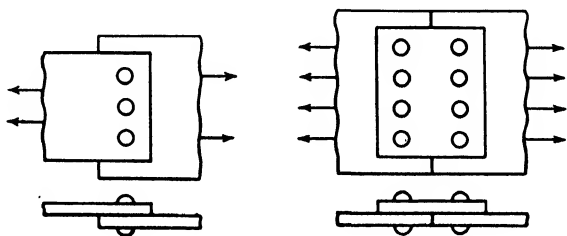

Fig. 233.
1. Find the strength in shear of the lap joint in Fig. 233, using  $\frac{1}{8}$  in. diameter 17S-T rivets driven hot.
2. What is the strength of the butt joint in Fig. 233 if all rivets are  $\frac{3}{8}$ -in. 24S-T driven cold immediately after quenching?